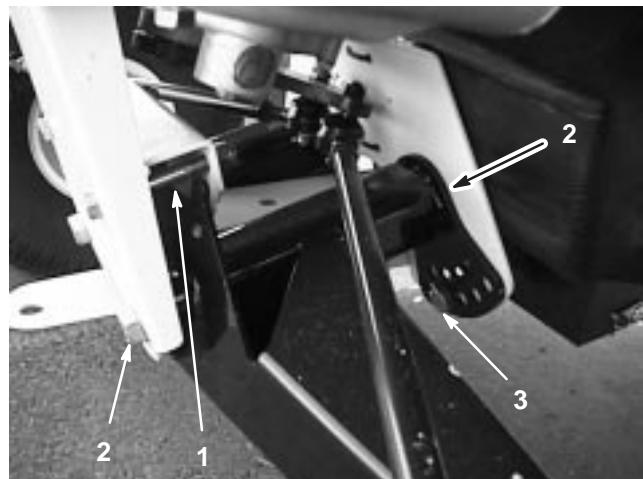

Figure 24
5. Rotate the front A-arm to the desired position (refer to the note below) and replace the ride height adjustment bolt (Fig. 24).
7. Replace the travel limiting bolt (Fig. 24).